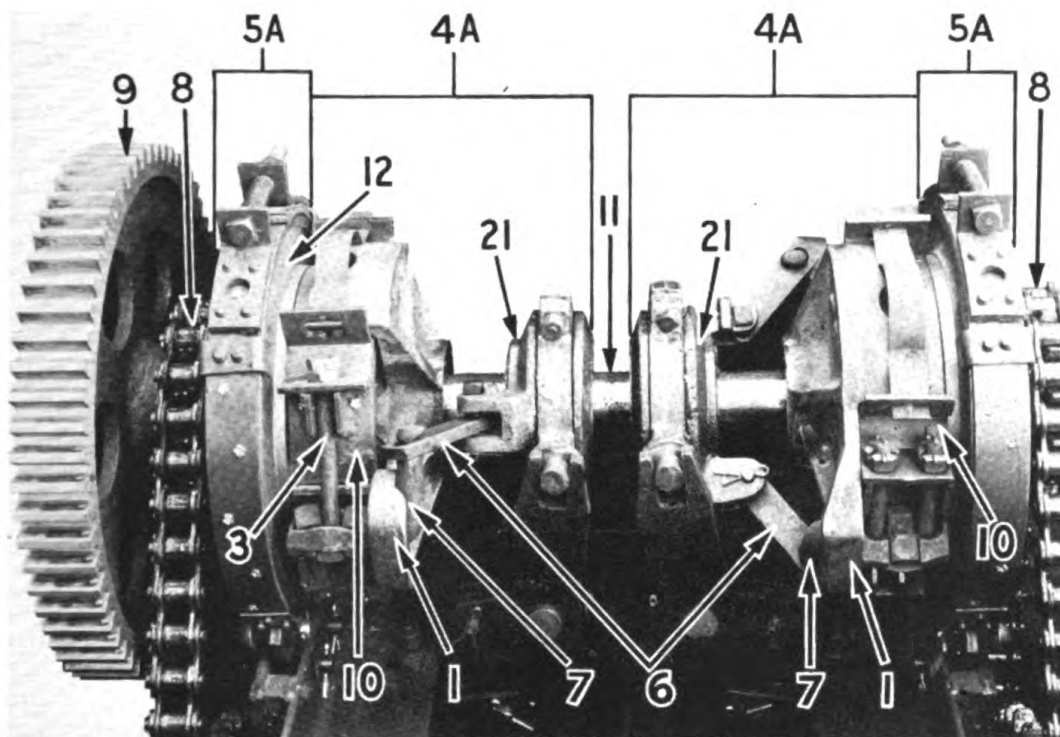

Figure 17. Crawler clutch shaft.
The principal part of the crawler drive group is the crawler clutch shaft drive gear (12) which is bronze bushed. This gear has three jaws machined in each end of the gear. A shifter yoke—assembled on the gear connects it with the crawler speed change lever. When the lever is in one position the gear jaws mesh with the traveling speed jaw (11), and in the second position with the crowding speed jaw (15). This gear meshes with gear (9) figure 17 on crawler clutch shaft.
(26) Crawler Clutch Shaft
The crawler clutch shaft (11) figure 17 transmits power for traction and the clutches (4A) assembled hereon are also used for steering the loader.